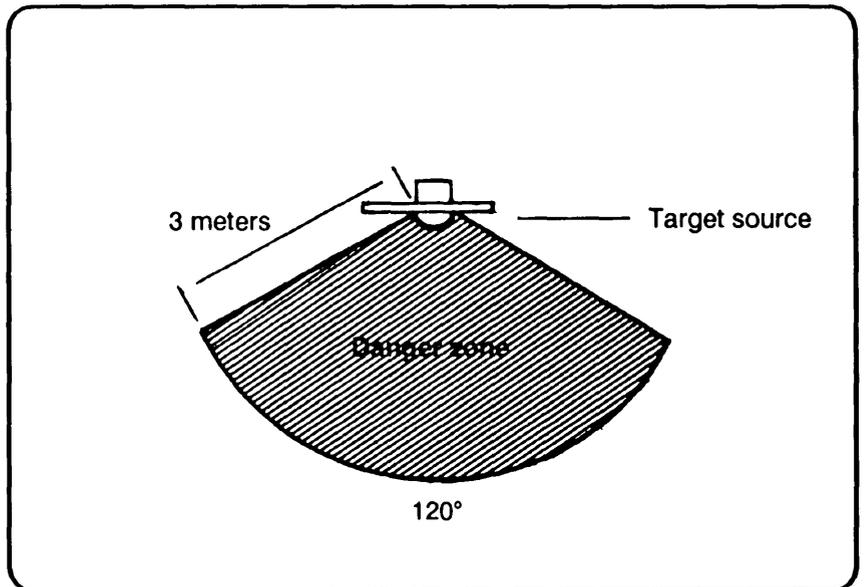

Figure 6-9. Target source danger zone.
**WARNING: During operation, do not look into the target source lamp when in the danger zone. (See Figure 6-9.) Do not look at the target source through vehicle mirrors or any other reflective surface. Serious eye damage could result, requiring immediate medical attention. Also, do not look into the infrared lamp (target source) when within 3 meters of the target source.**
(1) *Target source.* The target source operates at training frequency (5 KHz) and simulates the missile flare. Personnel must not enter the danger zone while the target source is operating (Figure 6-9).
3. Do not allow personnel to enter the danger zone (see Figure 6-9) while the target source is in operation.